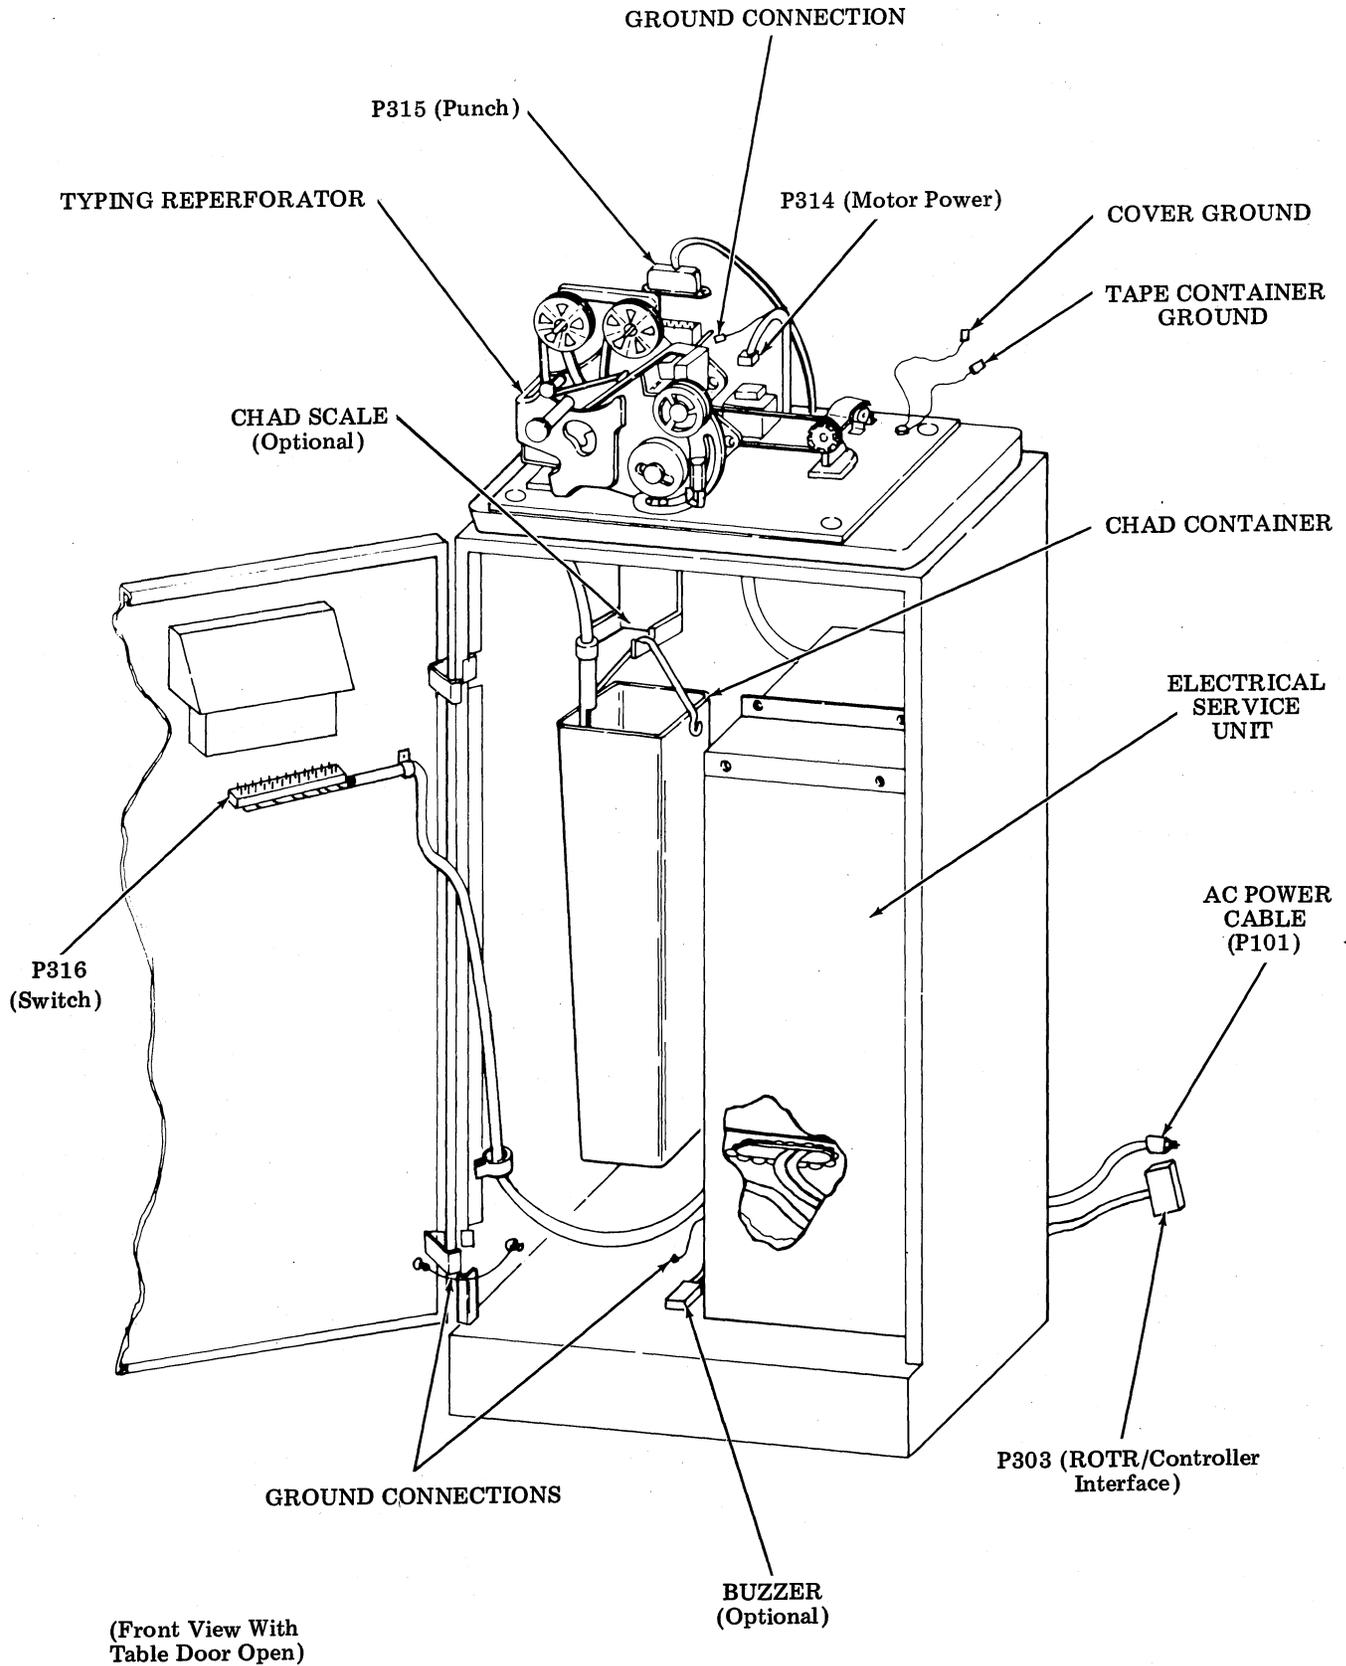

Figure 4 - Wiring Connections
2.08 The reperforator table supports the set and provides mounting facilities for a control panel, an electrical service unit, and a chad container assembly (Figure 4). A front access door houses the control panel, and provides an easy opening for servicing the electrical service unit and emptying the chad container. The chad container holds the chad from three, 8-inch diameter rolls of standard 1-inch wide, 8-level tape which has been 50% perforated.
Wiring Description (Figure 4)